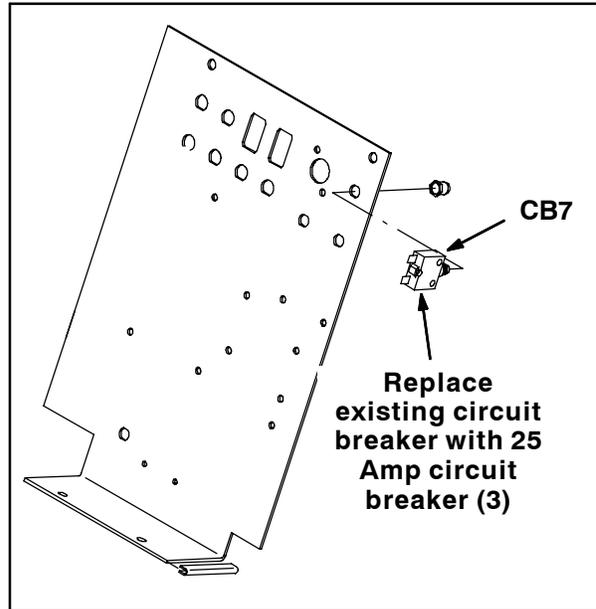

FIG. 3
3. Remove the existing circuit breaker from CB7 on the electrical panel. Refer to Fig. 3.
4. Install the 25 Amp circuit breaker into electrical panel location CB7. Refer to Fig. 3.